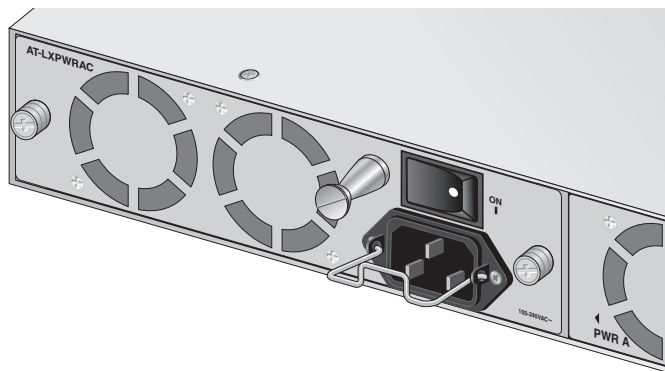

Figure 18. Retaining Clip Properly Installed in the Bracket
4. Verify that the retaining clip is in the correct position, as shown in Figure 18.